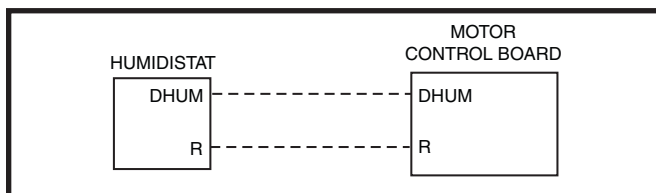

Figure 23. DEHUM Wiring Configuration with Humidistat
- If the room thermostat incorporates a humidity sensor and **DEHUM** output, connect the **DEHUM** on the thermostat to the **DEHUM** terminal on the motor control board. See Figure 23.